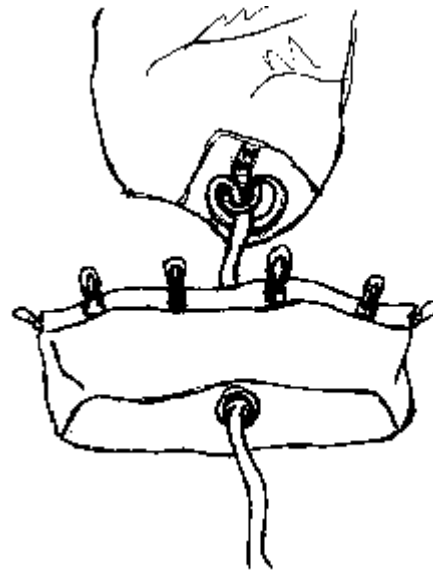

Figure 2-1
**Step 6** Next, attach the main bag to the canopy as follows (*Figure 2-1*):